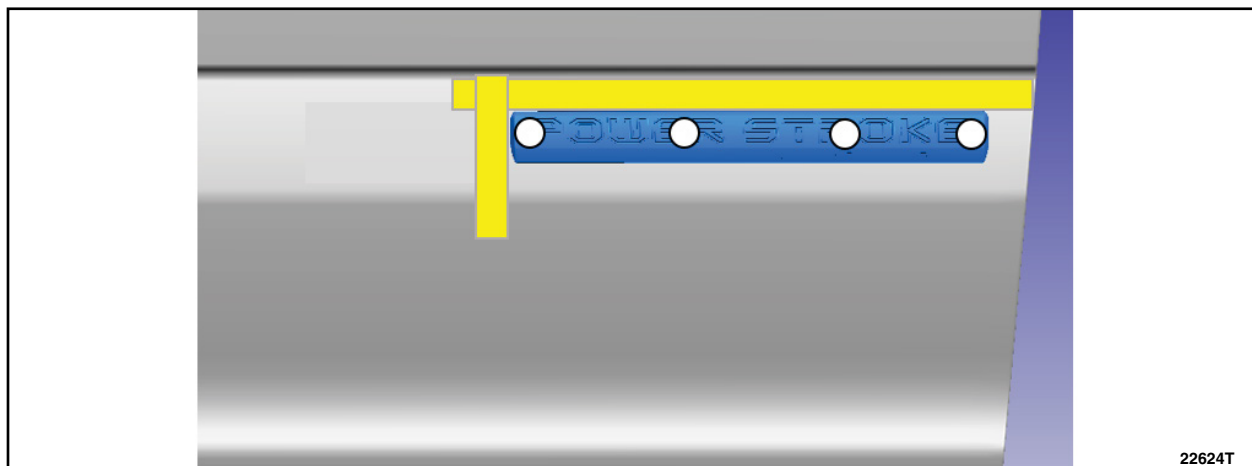

FIGURE 7
28. Remove the tape liner from the back of the badge and install to the door using the locating tape to properly align the badge. See Figure 7.
29. Using medium hand pressure, press for 3 seconds at a minimum of 4 separate locations along the length of the badge until the tape is fully adhered. See Figure 7.